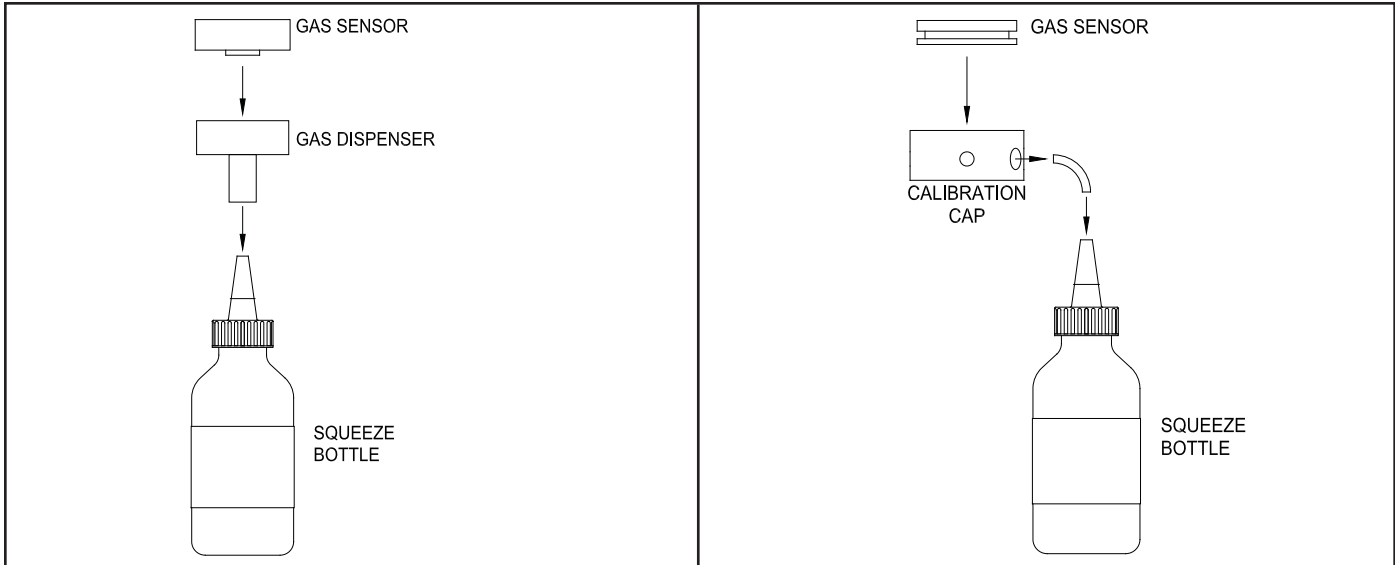

Figure 9 - System Test Method
6. Tighten the tapered cap on the squeeze bottle, and place the gas dispenser on the squeeze bottle's tapered spout. Refer to Figure 9.
7. Place the dispenser over gas detector sensor. Refer to Figure 9.